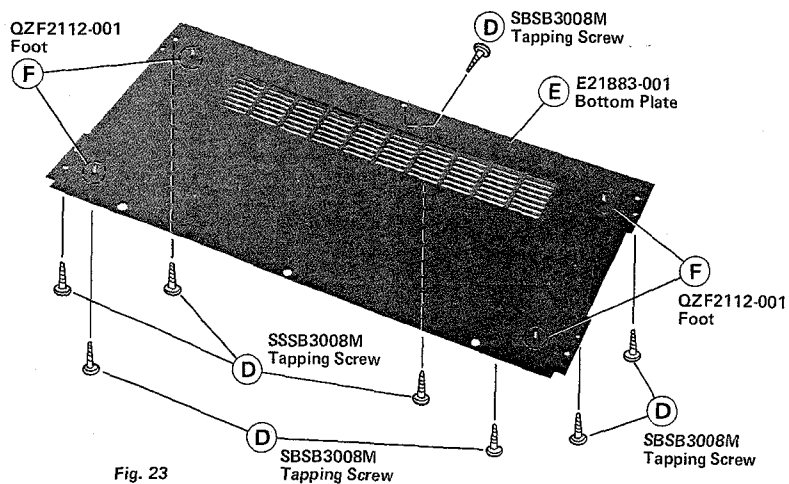

Fig. 23
- 1) Remove 8 screws (D) indicated on Bottom Plate. See Fig. 23 and 27.